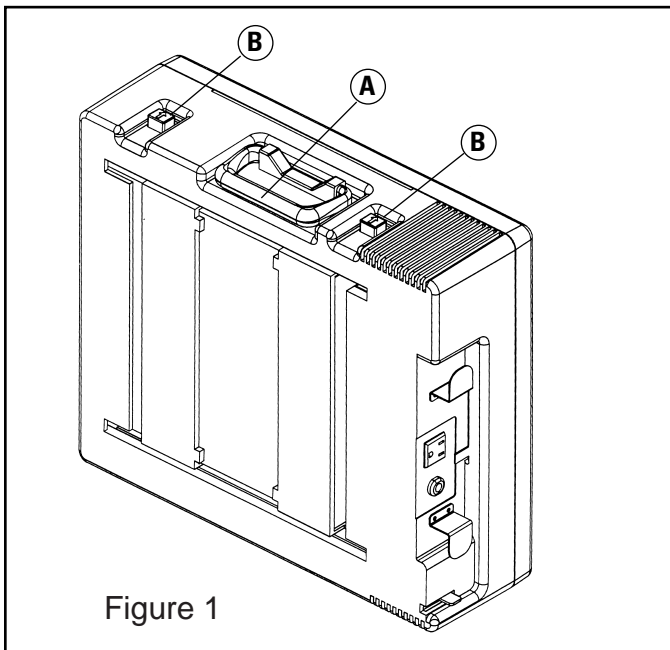

Figure 1
2. Grasp the carrying handle (A), and position the projector on its side with the handle upward. Remove the protective dust cover (see figure 1).
3. Release both leg latches by pressing in the direction indicated by the arrows (see figure 1). The leg latches (B) are located one on either side of the carrying handle. Press the leg latch firmly until it releases the leg and the leg folds outward. Release the latch. This will lock the leg in the extended position. Repeat to extend and lock both legs.